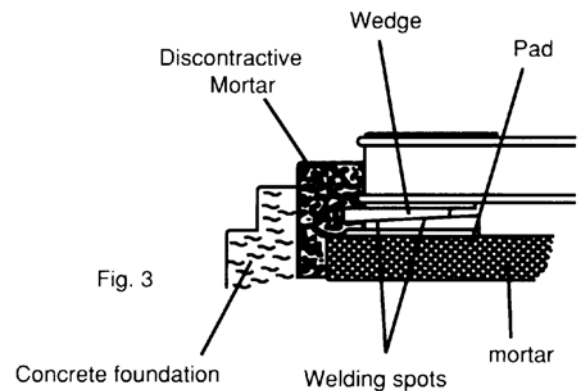

Fig. 3
- Sole plate or common bed should be embedded in concrete foundation as illustrated in Fig. 3. Stiff pads should also be installed beneath the wedges, which are welded together at various spots about 400-500mm (15.75-19.70 inches) apart. This will enable the foundation to evenly carry the weight of the whole motor.